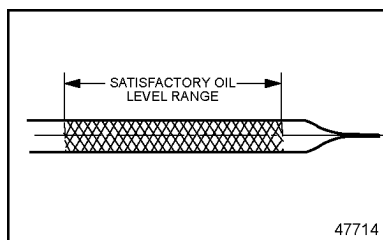

Figure 9 Oil Dipstick
5. Approximately five minutes after shutdown, check the engine oil level. If necessary, add oil up to the satisfactory fill range on the oil dipstick (see Figure 9). Do not overfill.